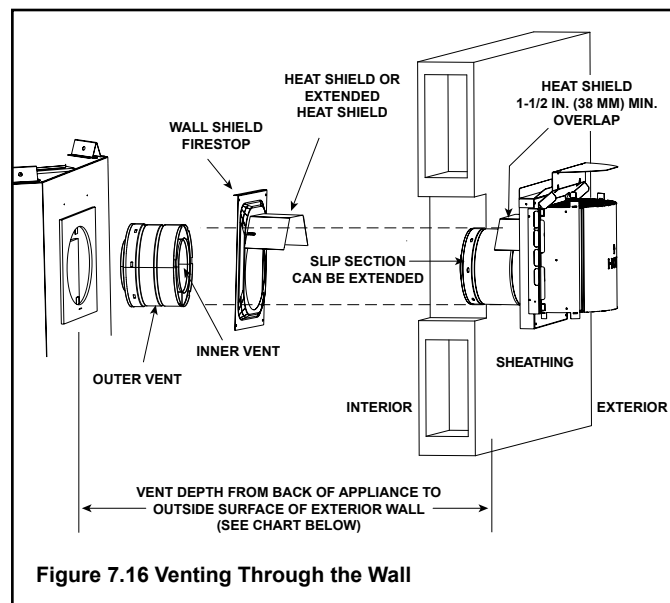

Figure 7.16 Venting Through the Wall
- **DO NOT** remove the heat shields attached to the wall shield firestop and the horizontal termination cap (shown in Figure 7.16).
There are two sections of the heat shield. One section is factory-attached to the wall shield firestop. The other section is factory-attached to the cap. See Figure 7.16.